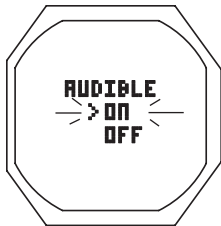

Fig. 40 - SET AUDIBLE AL
**Set Audible Alarm**, information includes (Fig. 40):